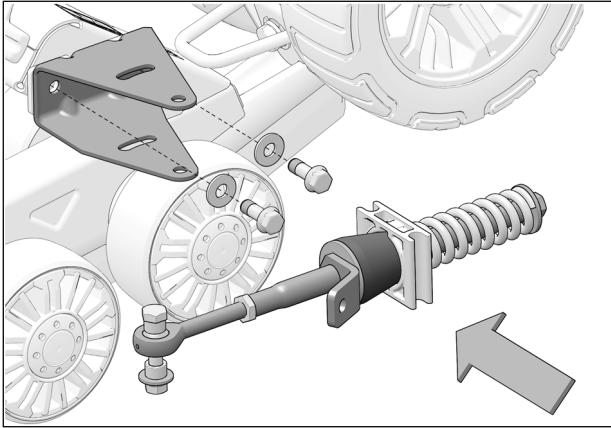

Fig. 14
6. Re-attach anti-rotation bracket using its assembly bolts and washers. Tighten bolts to 50 N•m [37 lb•pi] of torque. Replace anti-rotation arm back into position. See Fig. 14